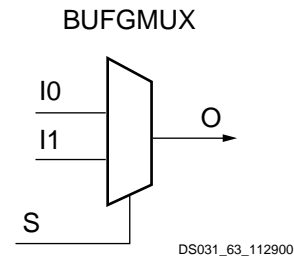

Figure 41: Virtex-II BUFGMUX Function
The two clock inputs can be connected to any synchronous or asynchronous clock (from a clock pad or DCM clock output). When the select input (S) is Low, the clock connected to the I_0 input is distributed, as shown in Figure 41. Setting S High, causes the clock connected to the I_1 input to be distributed.